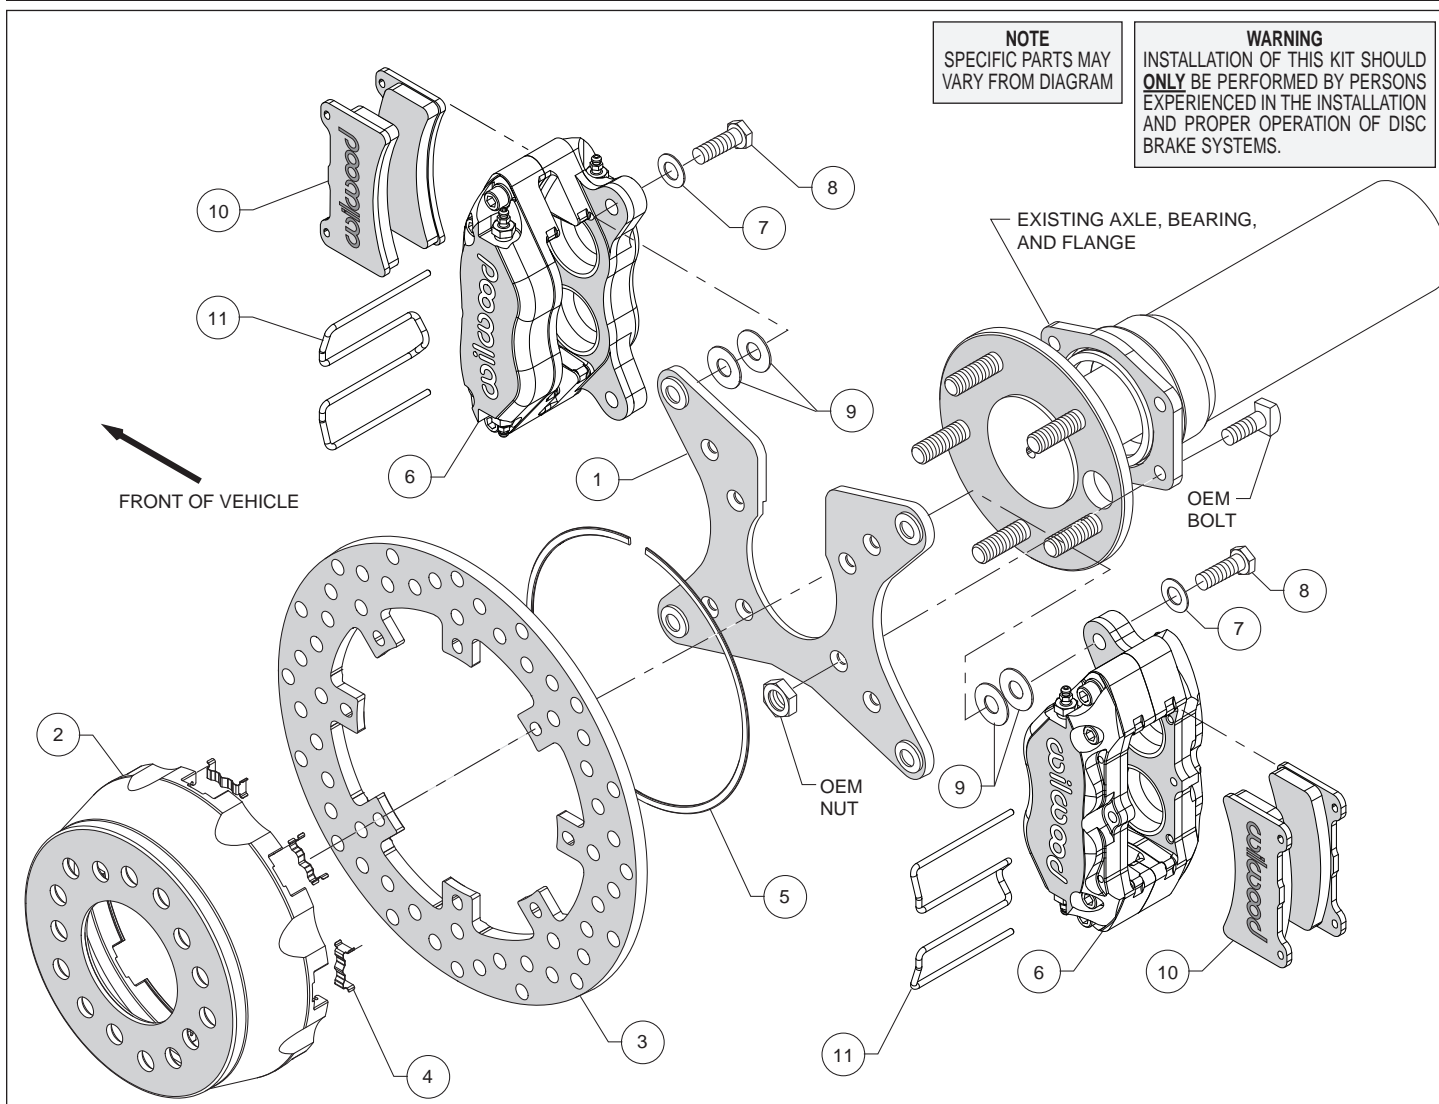

Figure 1. Typical Installation Configuration
Assembly Instructions (numbers in parenthesis refer to the parts list and Figure 1 on the preceding pages): **CAUTION:** All mounting bolts must fully engage clinch nuts. Be sure to check that all bolts are either flush or protruding through flanged side of clinch nut after shimming, Figure 5.
- Install the caliper mounting bracket (1), with the slot for the axle pointing upward, to the housing flange using the OEM bolts and nuts, as shown in Figure 1 and Photo 1. Ensure that the caliper mounting ears on the bracket are oriented fore and aft on the car, with the heads of the clinch nuts facing outboard, Photo 1. Apply red *Loctite*® 271 to the OEM bolt threads and torque to OEM specifications.
- Insert the dynamic mount wear plates (4) into the slots in the hat (2) making sure the tabs snap in place, Photo 2. Orient the rotor (3) as shown in Figure 1 and Photo 3, with the flush mount tab side facing the hat. Attach the rotor to the hat using snap ring (5) by pushing down on the rotor and installing the ring into the groove in the hat, as shown in Photo 4. Ensure that the ring is fully engaged in the groove.
- Align the correct hole pattern in the hat (2) with the axle stud pattern and slide the hat/rotor assembly onto the axle hub. **NOTE:** The hat must fit flush against the axle flange or excessive rotor run out may result. Install three lug nuts (finger tight) to keep the hat/rotor in place while continuing with the installation. **NOTE:** The hats included in this brake kit are drilled for .68" diameter wheel studs.
- NOTE:** Please reference the caution statement at the beginning of the assembly instructions. Mount one caliper (6) onto the mounting bracket (1) using bolts (8) and washers (7), as shown in Figure 1. Initially place two .035" thick shims (9) on each bolt between the caliper and the bracket, Photo 5. Temporarily tighten the mounting bolts and view the rotor (3) through the top opening of caliper. The rotor should be centered in the caliper, Photo 6. If not, adjust the caliper by adding or subtracting shims between the bracket and the caliper. Always use the same amount of shims on each of the two mounting bolts. **NOTE:** The end of each bolt must be flush with or slightly protruding from the head of the clinch nut. If necessary, place spare shims between washer and caliper mounting ear to achieve the proper clinch nut engagement, as shown in Figure 5. Once the caliper alignment and clinch nut engagement are correct, remove the bolts one at